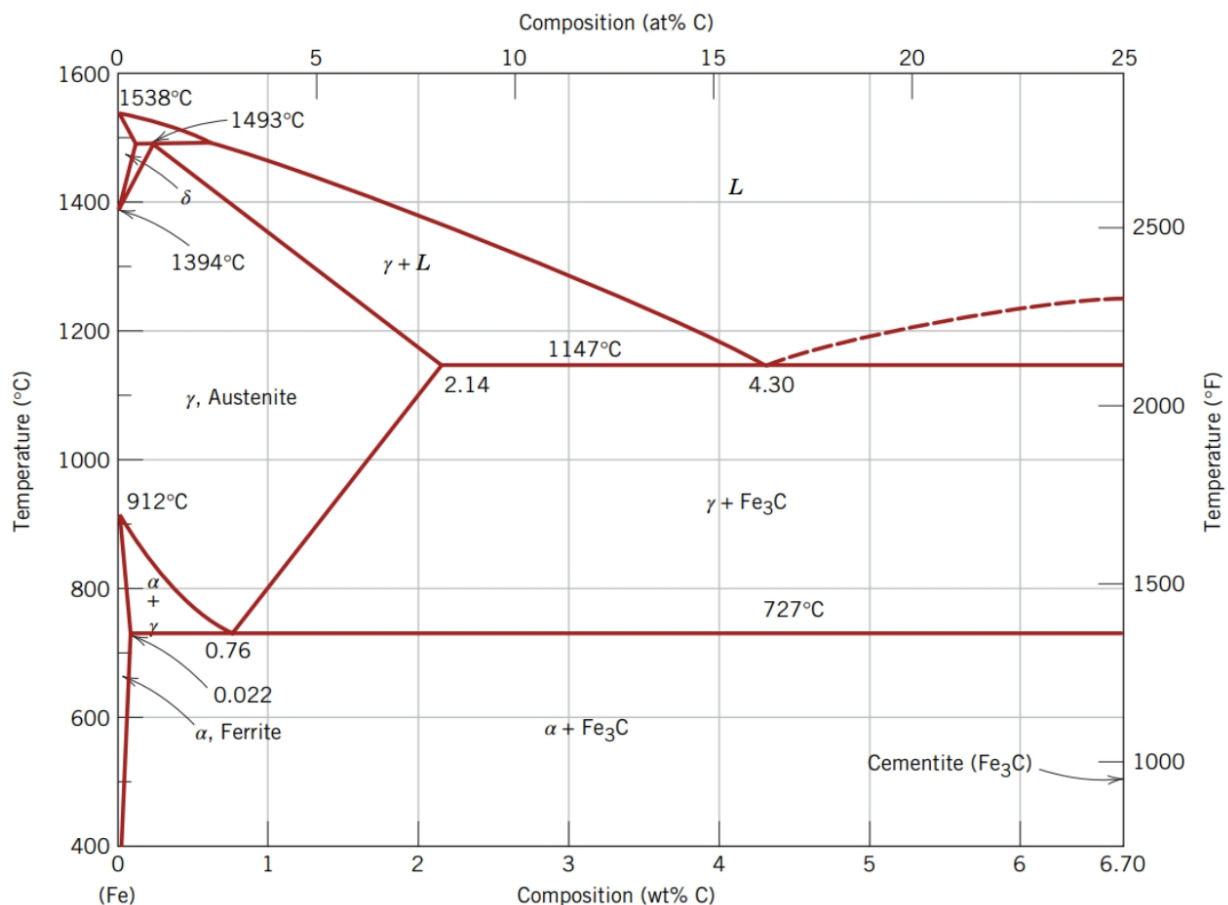

Figure 3: Fe-C phase diagram, reproduced from Callister
2. Shown in Figure 3 is the Fe-C phase diagram for compositions between Fe and Fe₃C.